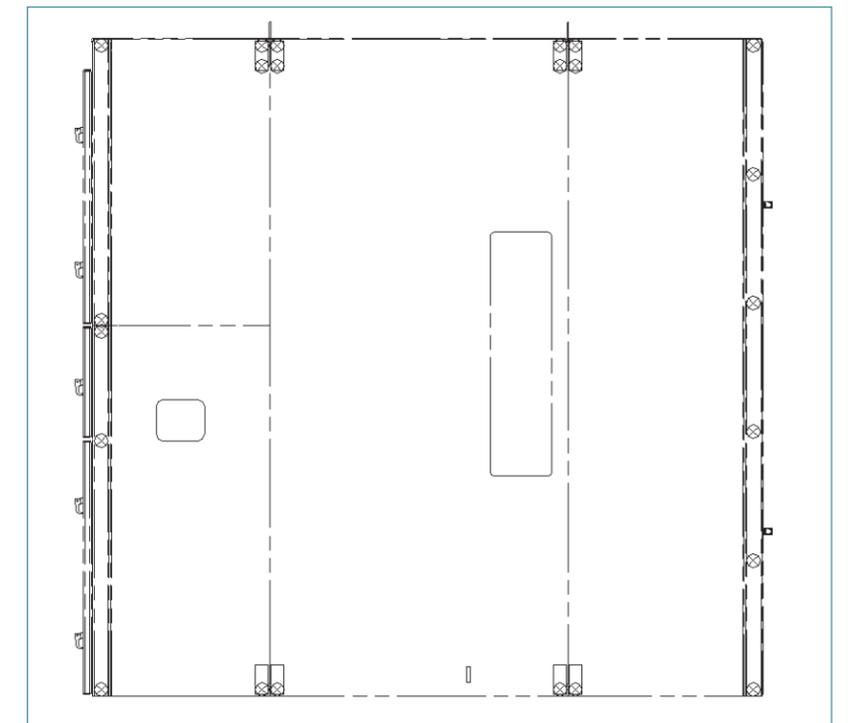

Figure 12: Interunit bolting location
Indoor switchgear shipping groups are held in true alignment by bolts holding the vertical sections to each other. Figure 12: Interunit bolting location shows the location of the interunit fasteners used to attach sections together.
- 2b. Install interconnections hardware (refer to Figure 12: Interunit bolting locations on page 27 and Figures 6 and Figure 7 of Figure 13: Instructions for factory-assembled-aisle type SGM-SG on pages 29-35.) Access to the hardware for the front roof-panel supports is through the opening available with the removal of the vented front cover in step 1.f. Refer to Figures 7 and 11 of Figure 13: Instructions for factory-assembled-aisle type SGM-SG on pages 29-35.
- 4a. Refer to Figure 12 of Figure 13: Instructions for factory-assembled-aisle type SGM-SG on pages 29-35. Move the left-side aisle shipping group into position. Use great care in properly aligning all of the joining surfaces.